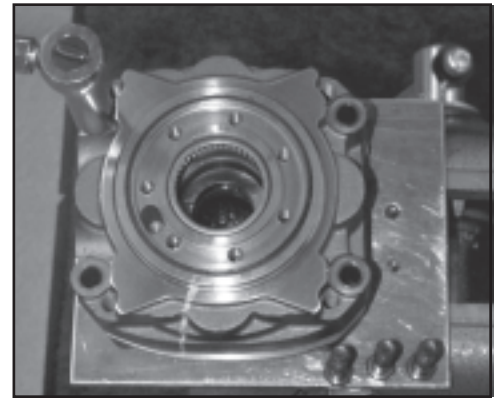

Figure D5
- 6. Remove the four brake housing bolts. *The bolts are under spring load and should be loosened gradually and uniformly. Remove rear brake housing assembly. SEE FIGURE D5*